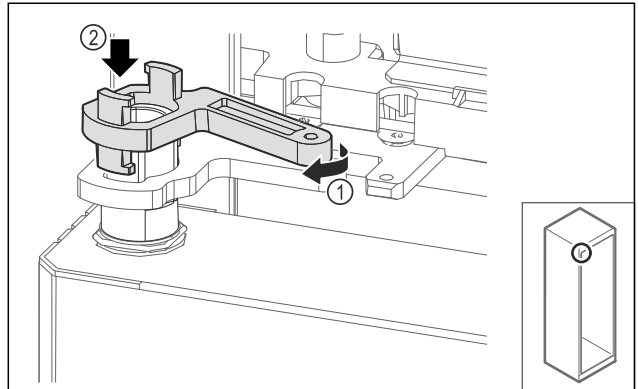

Fig. 58
- Turn the swap bearing block lock slightly and Fig. 58 (1) place it on the sleeve Fig. 58 (2).